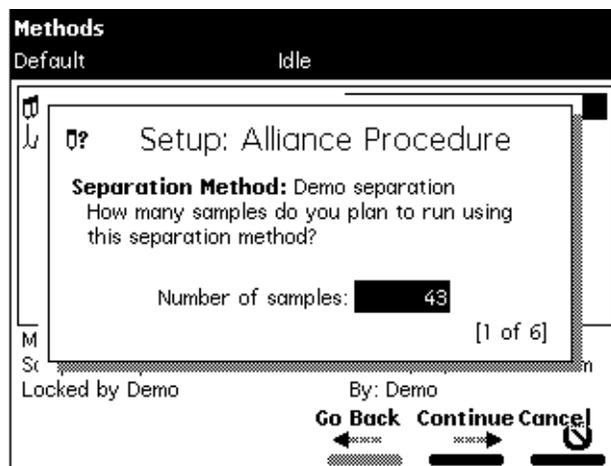

Figure 4-5 Setup Dialog Box
2. Select the sample template you want to run (see Table 4-3), then press **Enter**. The Setup dialog box appears, as shown in Figure 4-5.